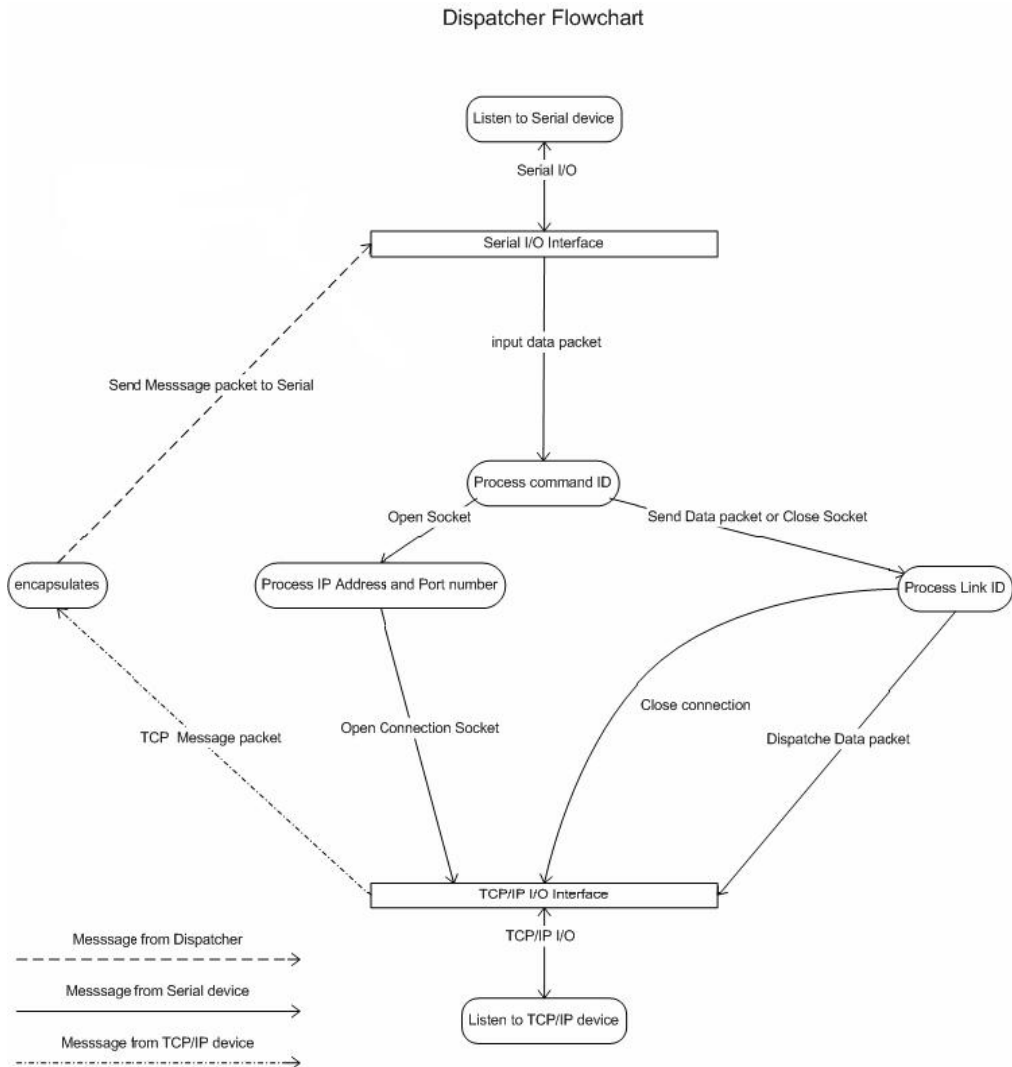
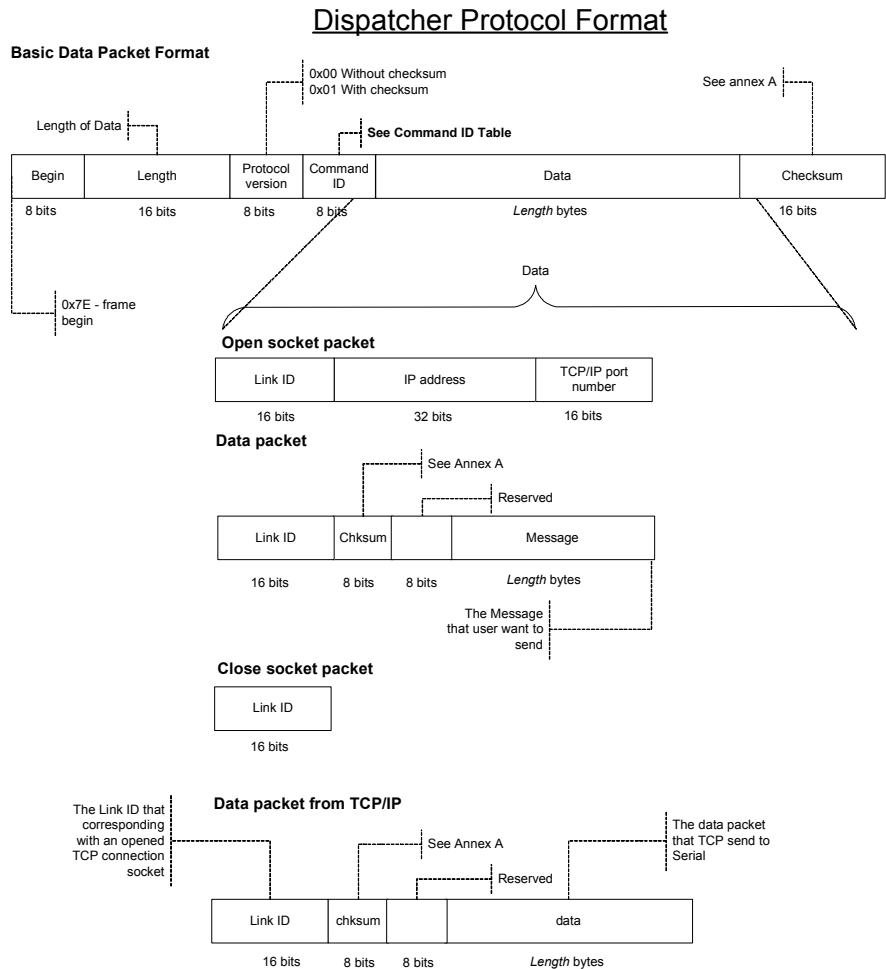

Figure 3: Dispatcher Flowchart
Figure 4: Dispatcher Protocol
- The Dispatcher expects the data coming from the serial port to respect the format defined in Figure 4: Dispatcher Protocol.
- In normal circumstances (see Figure 3: Dispatcher Flowchart), the Dispatcher extracts the Message section of the data packet (shown in Figure 4: Dispatcher Protocol) received on the serial port, then decodes it to a TCP/IP segment, and finally sends it to the IP address/TCP port number that matches the Link ID.
- In normal circumstances (see Figure 3: Dispatcher Flowchart), the Dispatcher extracts the data contained in a TCP/IP segment received from an open TCP/IP connection, then encapsulates it to a serial data packet (see Figure 4: Dispatcher Protocol), and finally forwards it onto the serial connection.
Figure 4 shows the format of the packets received by the Dispatcher over its serial interface (i.e. Open socket packet, Data packet and Close socket packet) as well as the format of the packets sent by the Dispatcher onto its serial interface (i.e. Data packet from TCP/IP).